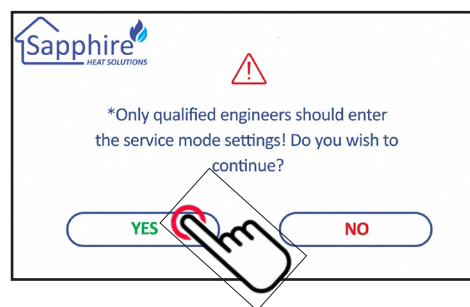

Fig.10.3
- User will be prompted with a warning message stating that "Only Qualified engineers should enter the service mode settings" **Fig. 10.3**